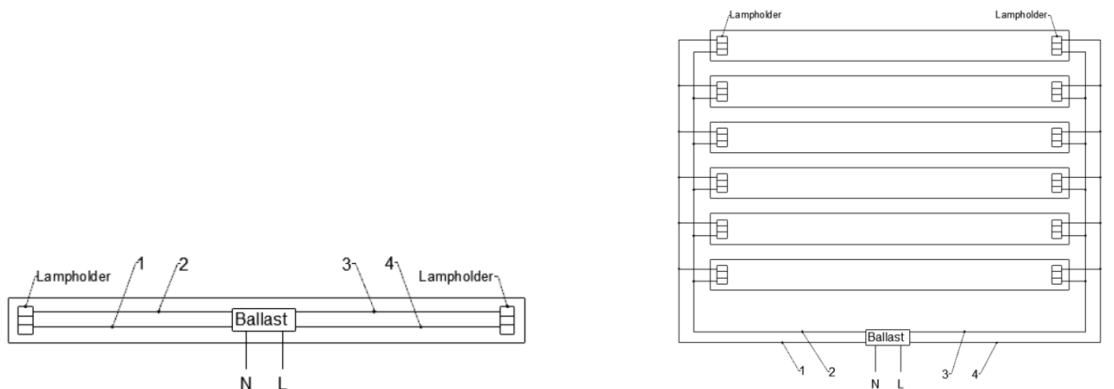
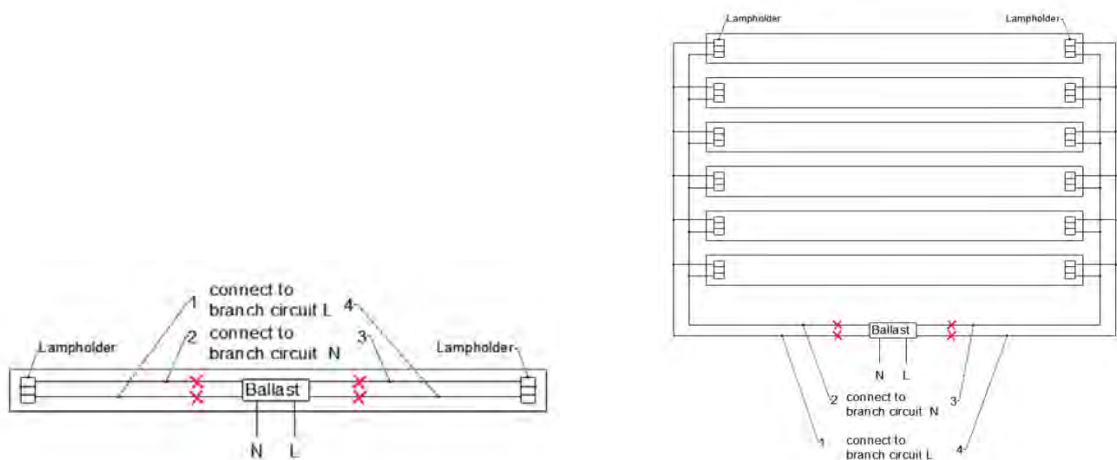

Figure 2
Figure 3
STEP 4: Original circuit as shown in Figure 2. Cut lamp holder leads “1, 2, 3, 4”, then connect one lead from each lamp holder to branch circuit as follows, “Leads 1 and 4” connected to L; “Leads 2 and 3” connected to N as shown in Figure 3. Cut as far away from the lamp holders to allow for longer lengths of wire at both lamp holders.